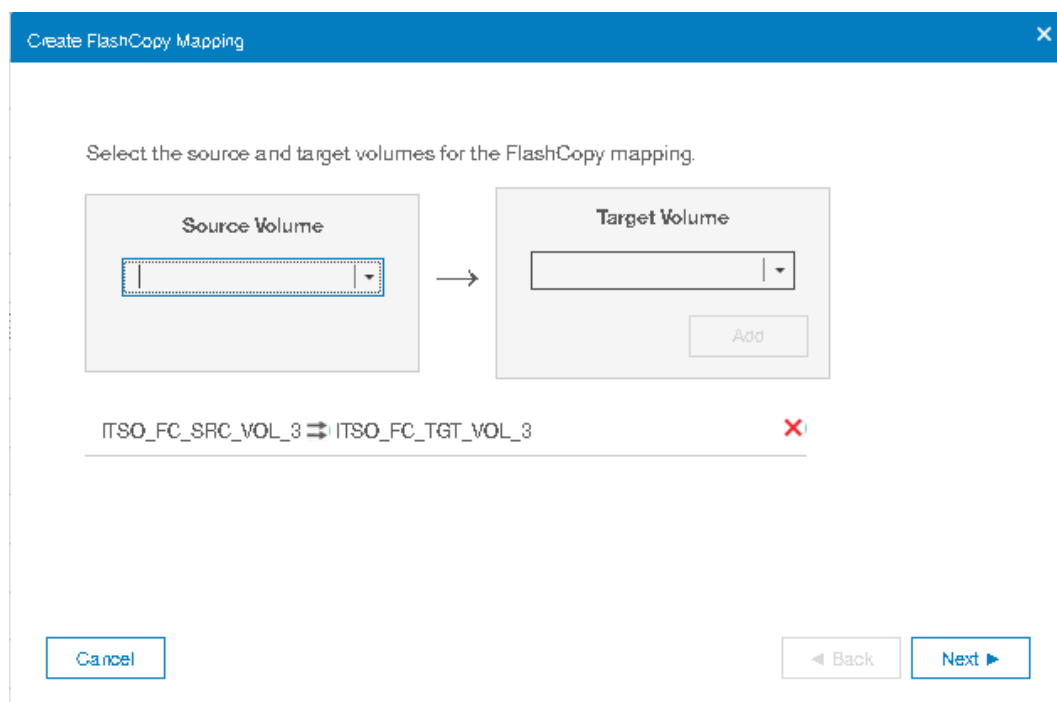

Figure 10-17 Create FlashCopy Mapping window
To remove a relationship that was created, click **X**, as shown in Figure 10-17 on page 484.
3. Click **Next** after you create all of the relationships that you need, as shown in Figure 10-17 on page 484.